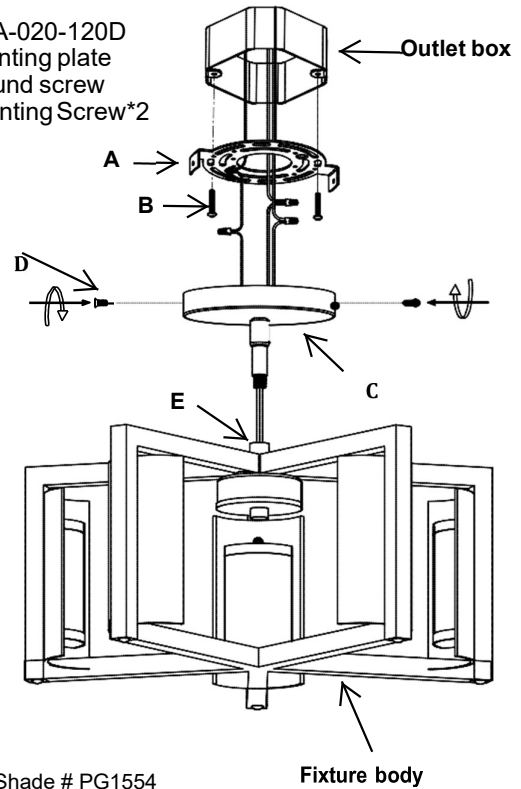

Fig. 2
### CONNECTION THE WIRES (Fig. 2)
5. Connect the electrical wires as shown in Fig.2, making sure that all wire connectors are secured. If your outlet has a ground wire (green or bare copper), connect the fixture's ground wire to it. Otherwise, connect the fixture's ground wire directly to mounting plate (A) using the green screw provided. After wires are connected, tuck them carefully inside the outlet box.